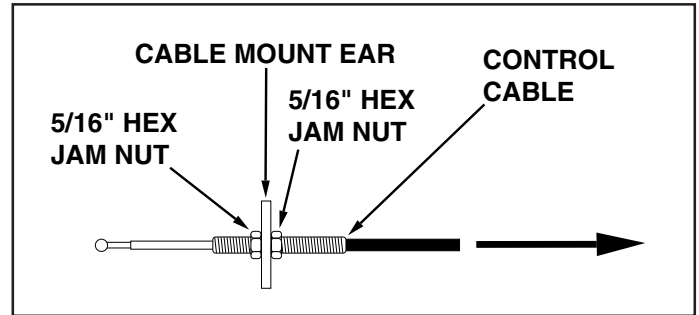

FIGURE 25
- If the blade will not unlock and pivot, the angle lock bars are not disengaging from slots in pivot plate. To correct this condition, adjust the 5/16" hex jam nuts to draw the end of the control cable back towards the welded cable mount ear on the handle tube. The less the end of the cable extends through the ear, the more the angle lock bars can retract to disengage from the slots in the pivot plate. See figure 25.